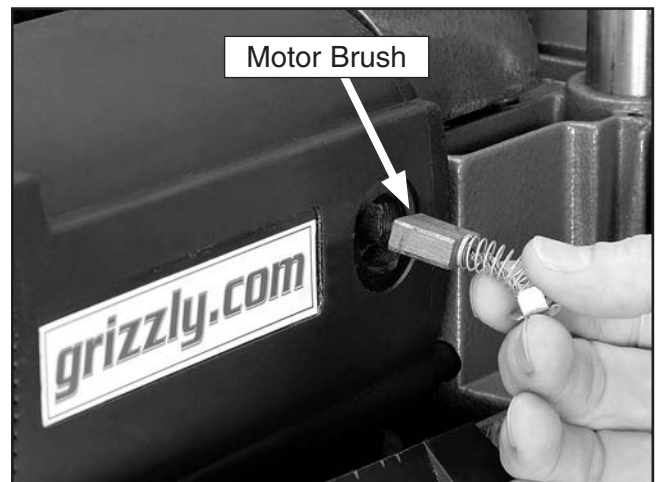

Figure 28. Motor brush replacement.
- Remove the brushes from the motor, as shown in Figure 28.